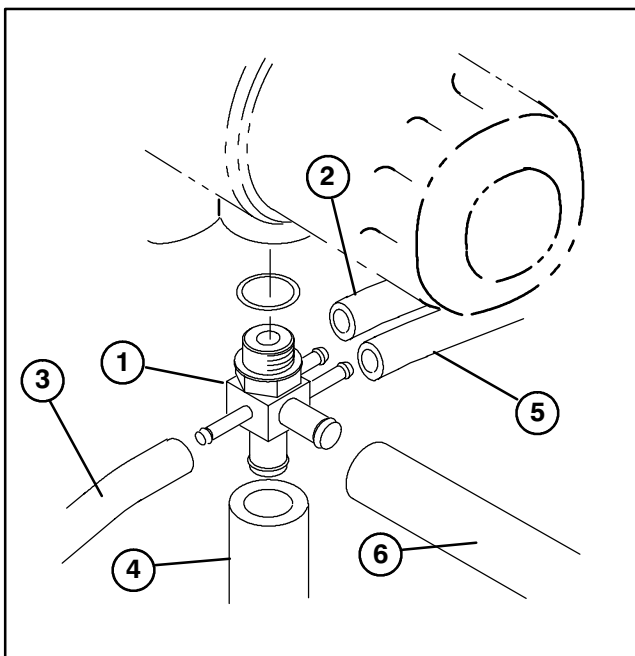

Figure 15
30. Install new special fitting (92-5640) into bottom of transmission (Fig. 15). Position fitting so side with two openings points toward right side of machine.
31. Reinstall lift cylinder hoses and return hose to new cross fitting. Position hoses as shown in figure 15.
32. Install hydraulic hose to 90° fitting on front of manifold block and remaining opening on side of cross fitting with (2) hose clamps. Reposition 90° fitting, as required, for hose connection.